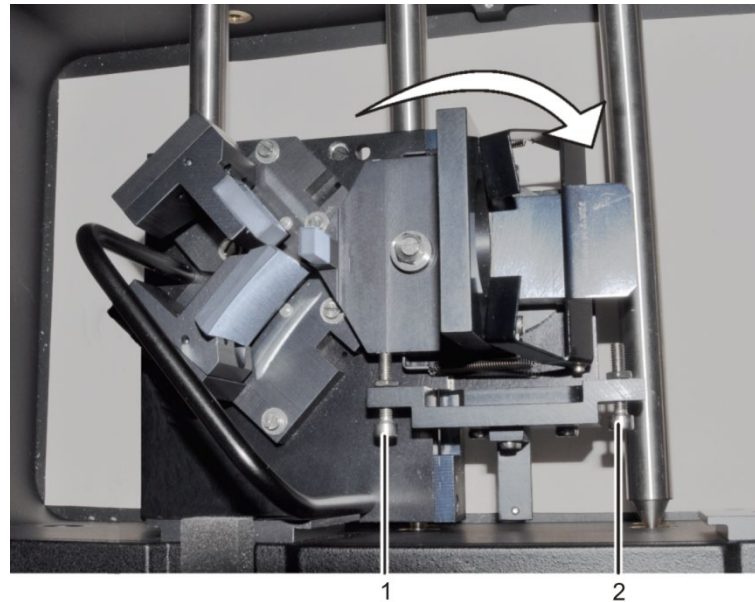

Fig. 93 Absolute reflectance attachment in the sample chamber
4. Adjust the holder by moving the stop bolt (2 in Fig. 93) until the light beam passes through the center of the measuring position for cloudy samples and thus hits the center of the receiver. To observe the beam path place a white screen, e.g. a strip of paper, into the cell measuring position for cloudy samples.
6. Adjust the holder by adjusting the stop bolt (1 in Fig. 93) as described in item (4).